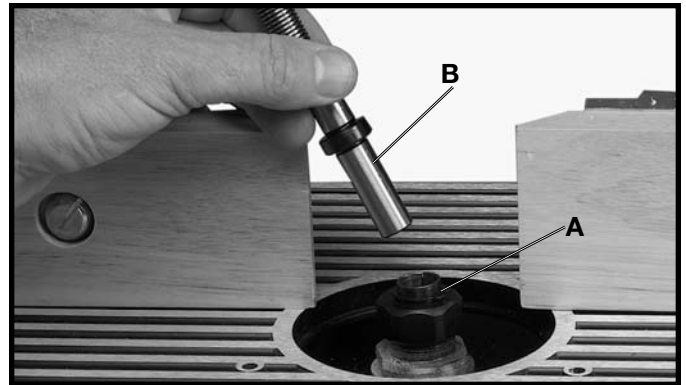
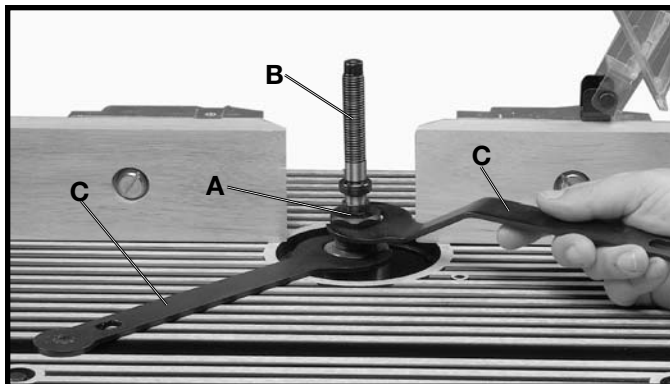

Fig. 33
Fig. 34
4. Insert accessory shaper spindle (B) Fig. 33, into collet (A). Tighten shaper spindle (B) Fig. 34, in collet (A) using wrenches supplied (C).